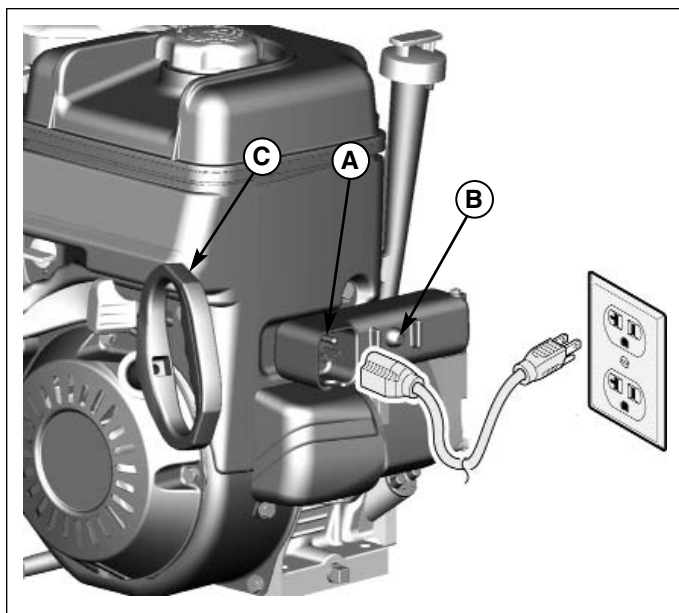

Figure 4. Engine Start - Electric
9. **Electric Start:** First connect the extension cord to the power cord receptacle (A, Figure 4) and then into a wall receptacle. If an additional extension cord is required, make sure it is a 3-wire.